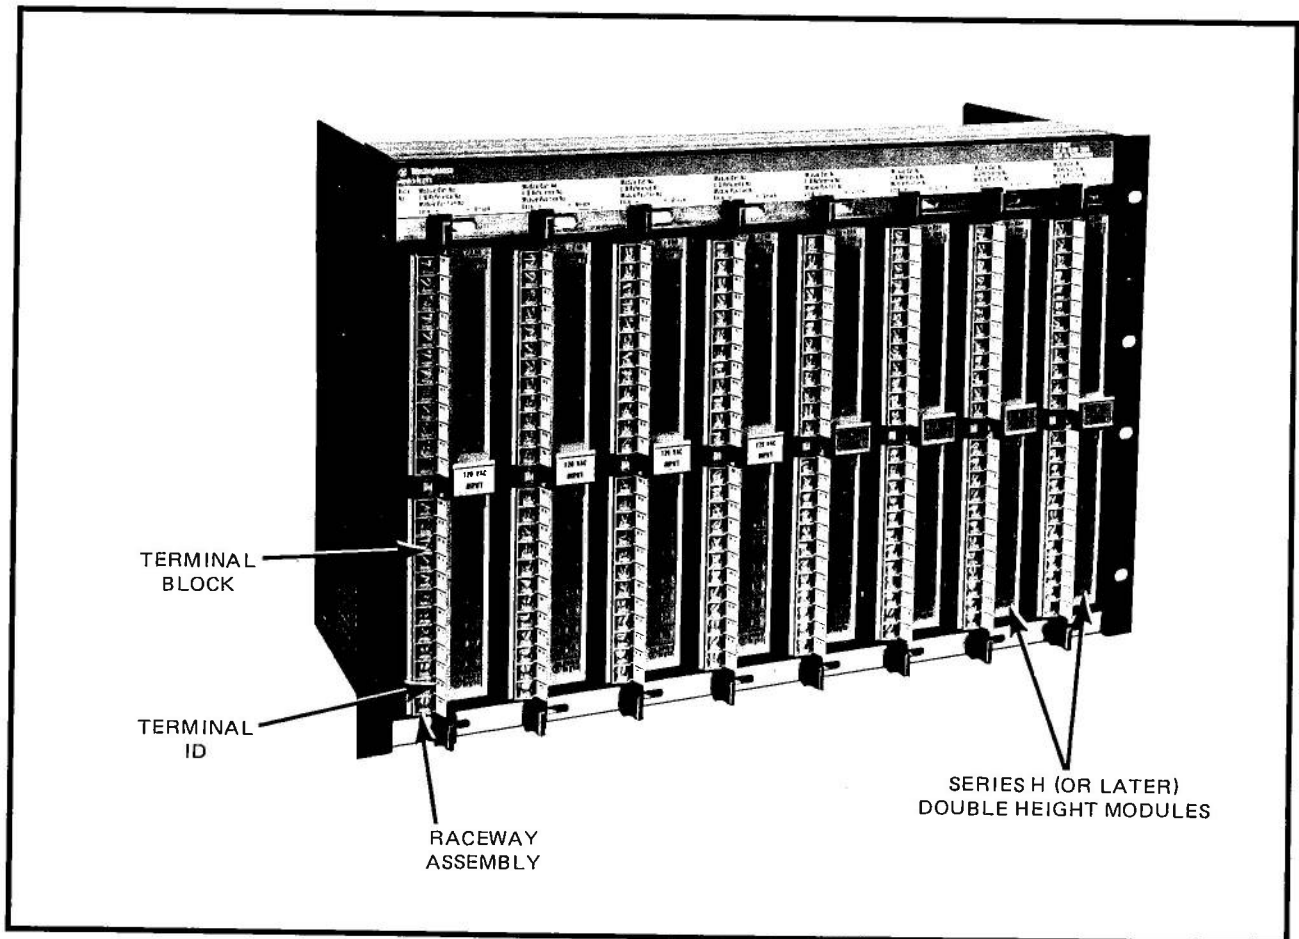

Figure 2-15. NLRH-708R Horizontal I/O Rack With 8 Modules Installed
The optional horizontal I/O racks provide a compact and economical enclosure for **Numa-Logic** double-height input and output modules in high-density PC-700 and PC-900 applications. Horizontal racks are available for both panel (P) and rack (R) mounting, and can contain 4 or 8 modules. Each horizontal I/O rack type is listed in Table 2-6. Figure 2-15 shows the NLRH-708R horizontal I/O rack with 8 modules installed.